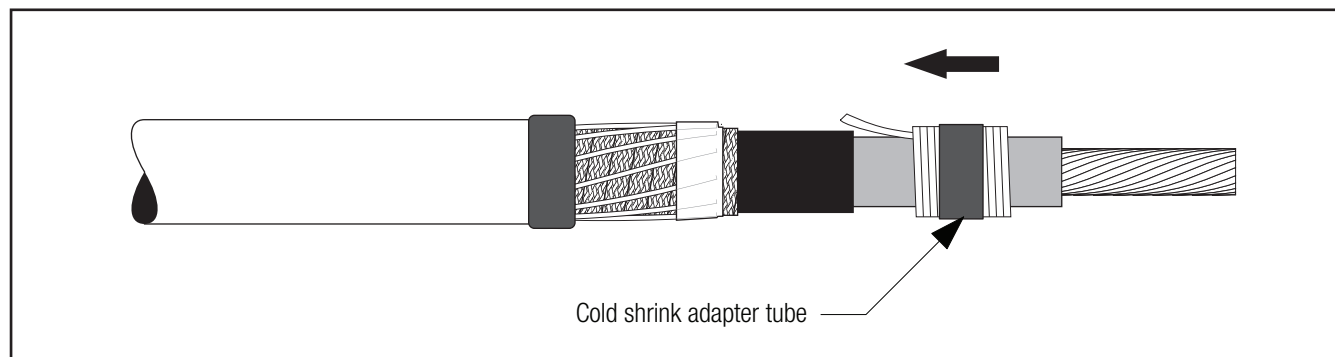

Figure 10
- 3.4 For 350 through 1000 kcmil copper connectors, 350 through 750 kcmil aluminum connectors, or connectors with an O.D. between 0.87-1.60" (22,1-40,6 mm): Park cold shrink adapter tube on cable insulation (Figure 10).